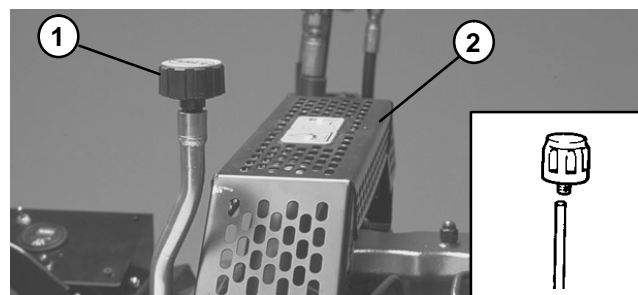

Figure 94
2. Clean around the breather and unscrew it with a wrench. Install new breather (Fig. 94).